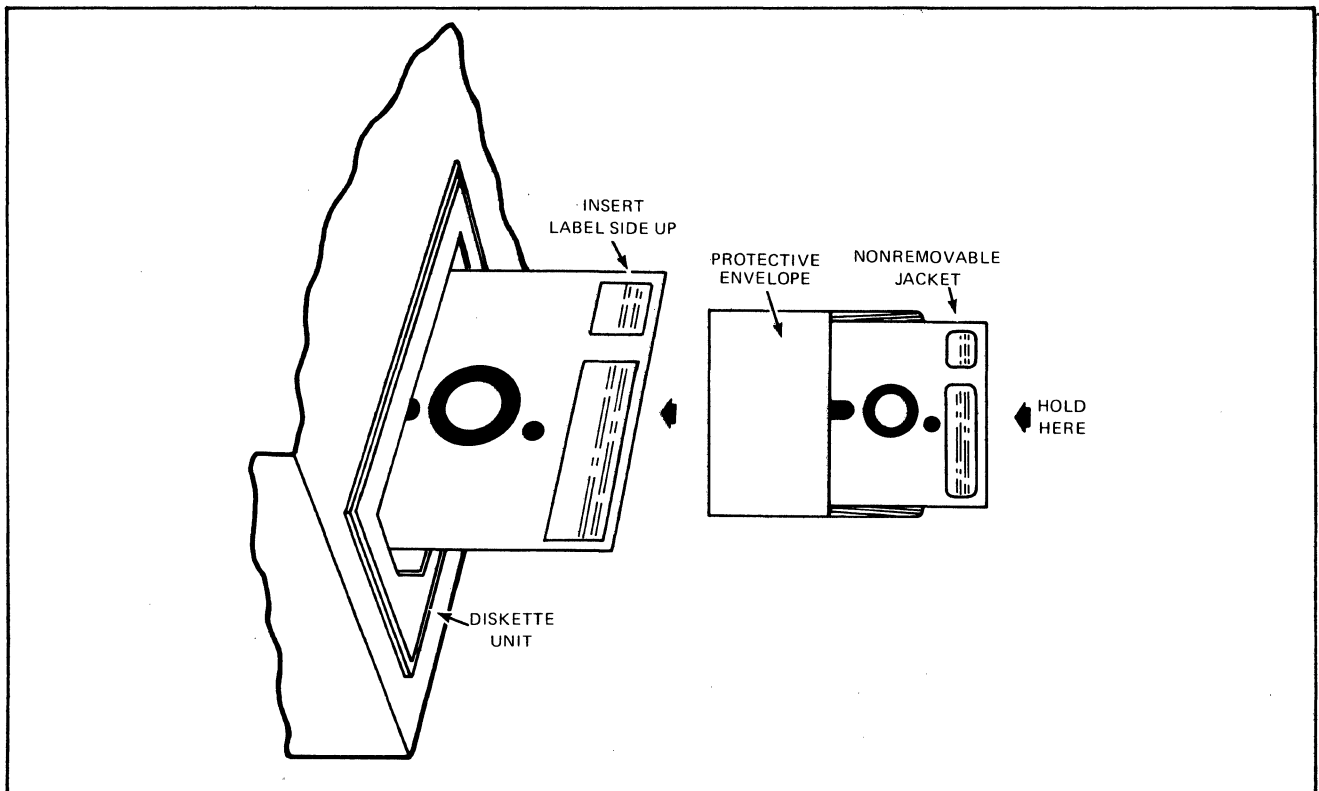

Figure 9-3. Diskette Media Handling
1. Remove the diskette from its protective envelope (Figure 9-3).